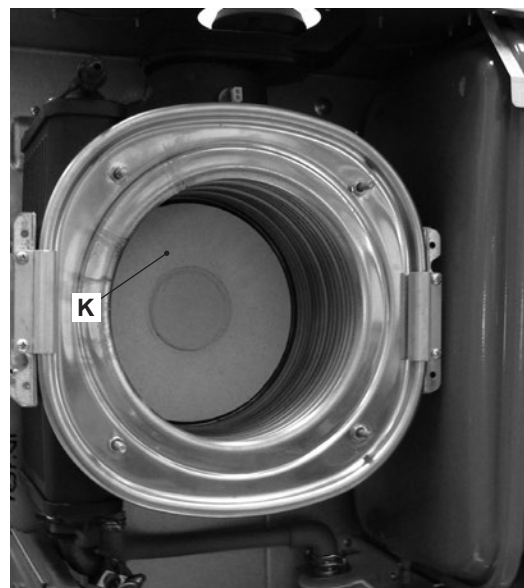

Figure 18.7
- 2 Remove the insulation "K" by pulling it towards the boiler front (Hung it with a screwdriver tip) (Figure 18.7).